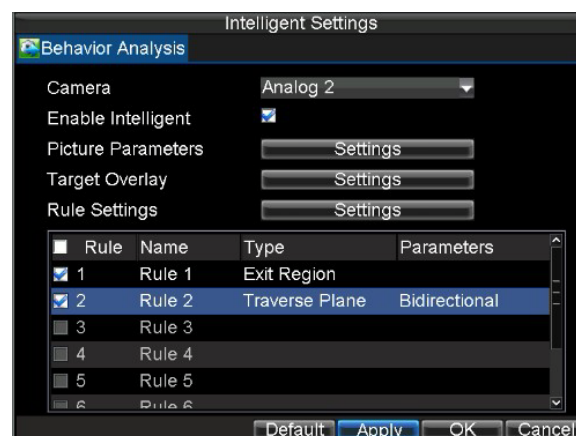

Figure 24. Include the Rules to list
5. Set one or more rules for this camera in Rule Settings menu, then check the checkbox of available rules to include them in the rule list, shown in Figure 24, click Apply button to get the settings done.